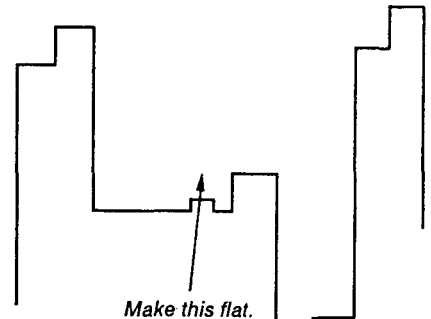

Fig. 12
- 4) Adjust **NTSC PHASE** so that the output waveform burst section becomes a straight line. (Fig. 12)